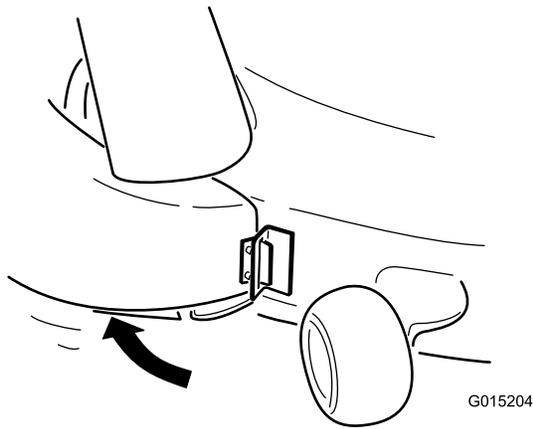

Figure 24
- Pivot the chute back and toward the deck so chute is flush with the mower deck (Figure 24).